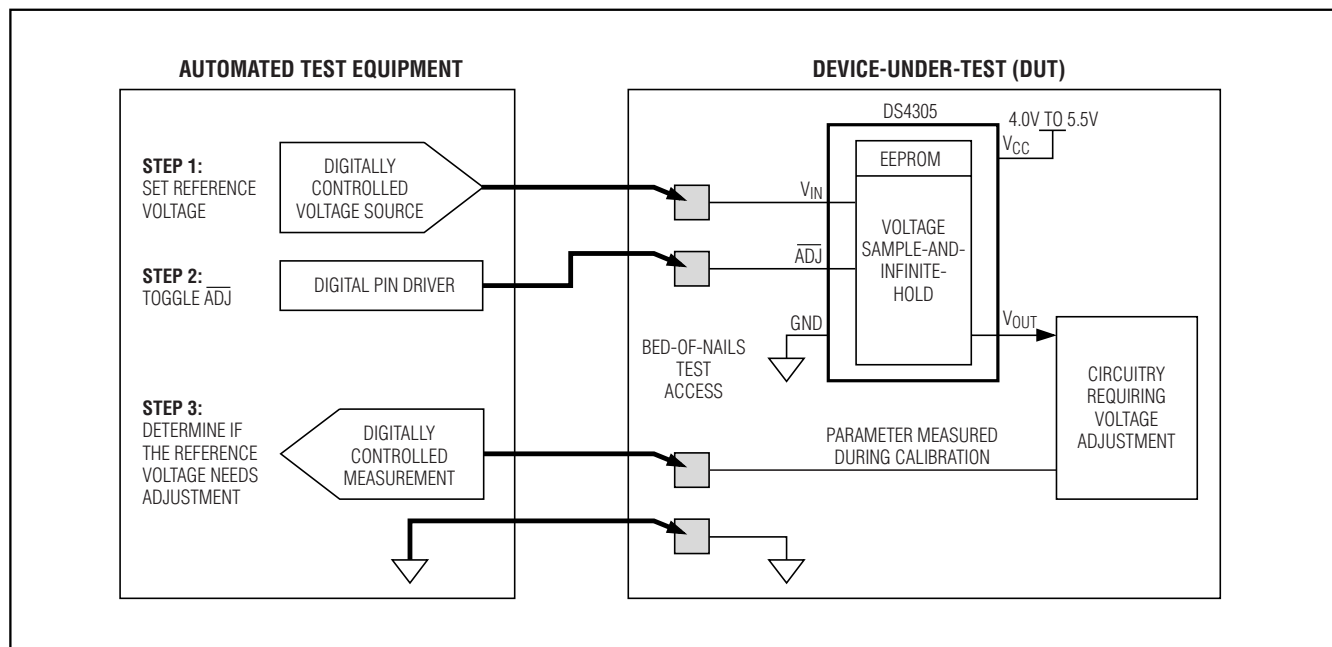

Figure 2. Application Circuit
Figure 2 details an example of how the DS4305 can be adjusted in an application. During factory alignment, a three/four-node bed-of-nails is used to: (1) provide the adjustment voltage through the V_{IN} pin, (2) control the $\overline{ADJ}$ input, and (3) sense the needed feedback parameter. During manufacture, an automated test procedure adjusts V_{OUT} , by changing V_{IN} , until the feedback parameter is optimized. After the bed-of-nails operation is complete, both the V_{IN} and $\overline{ADJ}$ inputs are left open